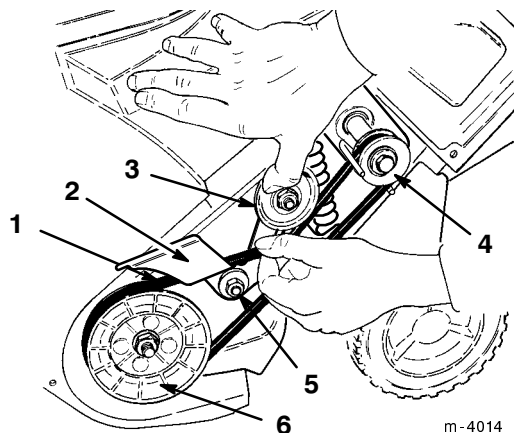

Figure 19
9. Loosen the idler pivot nut (Fig. 19).
10. Remove the drive belt from the rotor pulley (Fig. 19).
11. Push down on the idler pulley to release the brake arm and pull the drive belt from behind the brake arm (Fig. 19).
12. Slide the drive belt off of the drive pulley (Fig. 19).
13. Loop the new drive belt around the drive pulley and behind the brake arm (Fig. 19).
14. While holding the drive belt, slip the belt onto the rotor pulley and rotate the rotor with the other hand until the drive belt is completely on the rotor pulley (Fig. 19).
17. Torque the engine mounting nuts and the idler pivot nut (Fig. 19) to 170 to 200 in-lbs (19.2 to 22.6 N·m).